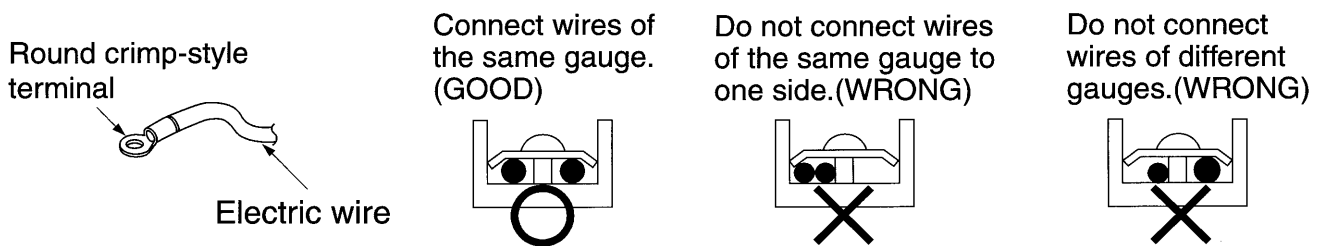

Fig. 22
- When connecting wires of the same gauge, connect them according to Fig. 22.